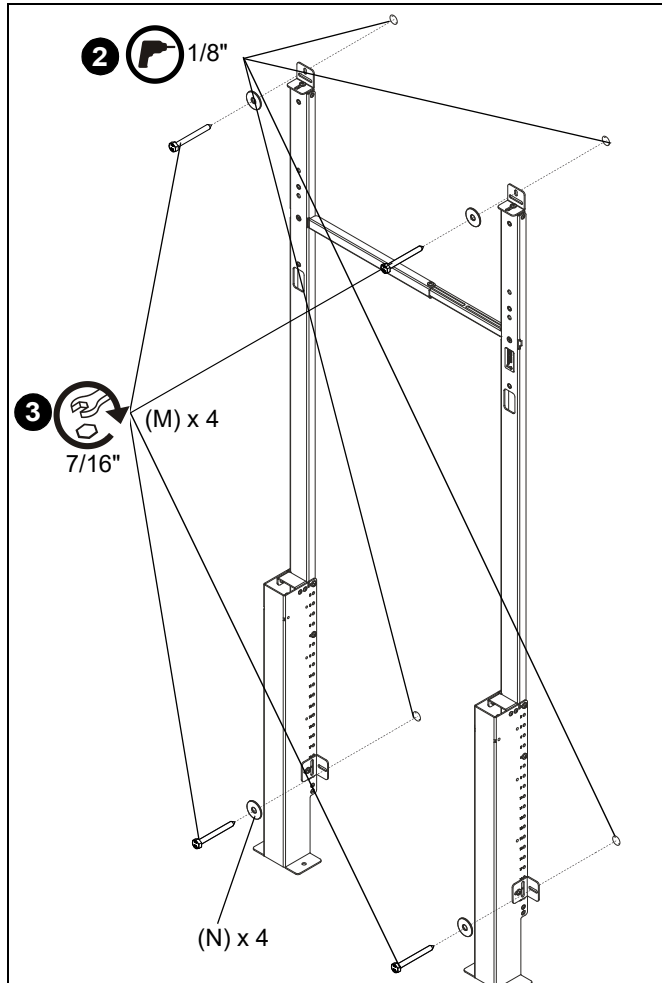

Figure 14
1. Mark hole locations at each mounting location based on locations of wall brackets (F) and wood studs. Use a level to ensure of an even mount. (See Figure 14)
2. Drill 1/8" holes on marked hole locations. (See Figure 14)
3. Use four 1/4-20 x 2 1/2" hex head lag screws (M) and four 1/4" washers (N) to secure wall brackets (F) to wall. (See Figure 14)